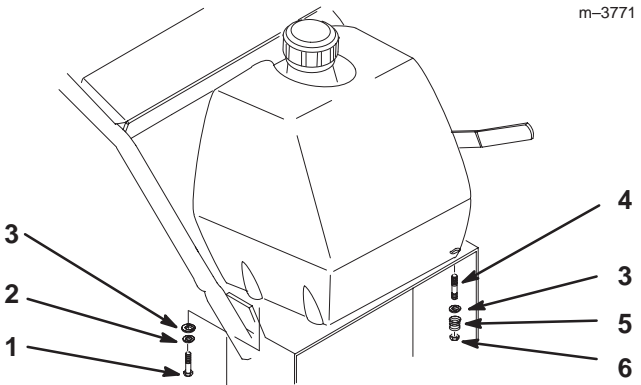

Figure 5
- Align fuel tank with the top of the rear frame (Fig. 5).
- Secure the right side of the fuel tank to the rear frame with 2 bolts (5/16 x 7/8 inch), lock washers (5/16 inch) and washers (5/16 inch) (Fig. 5).
- Secure the left side of the fuel tank to the rear frame with 2 studs, washers (5/16 inch), springs and locknuts (5/16 inch) (Fig. 5).